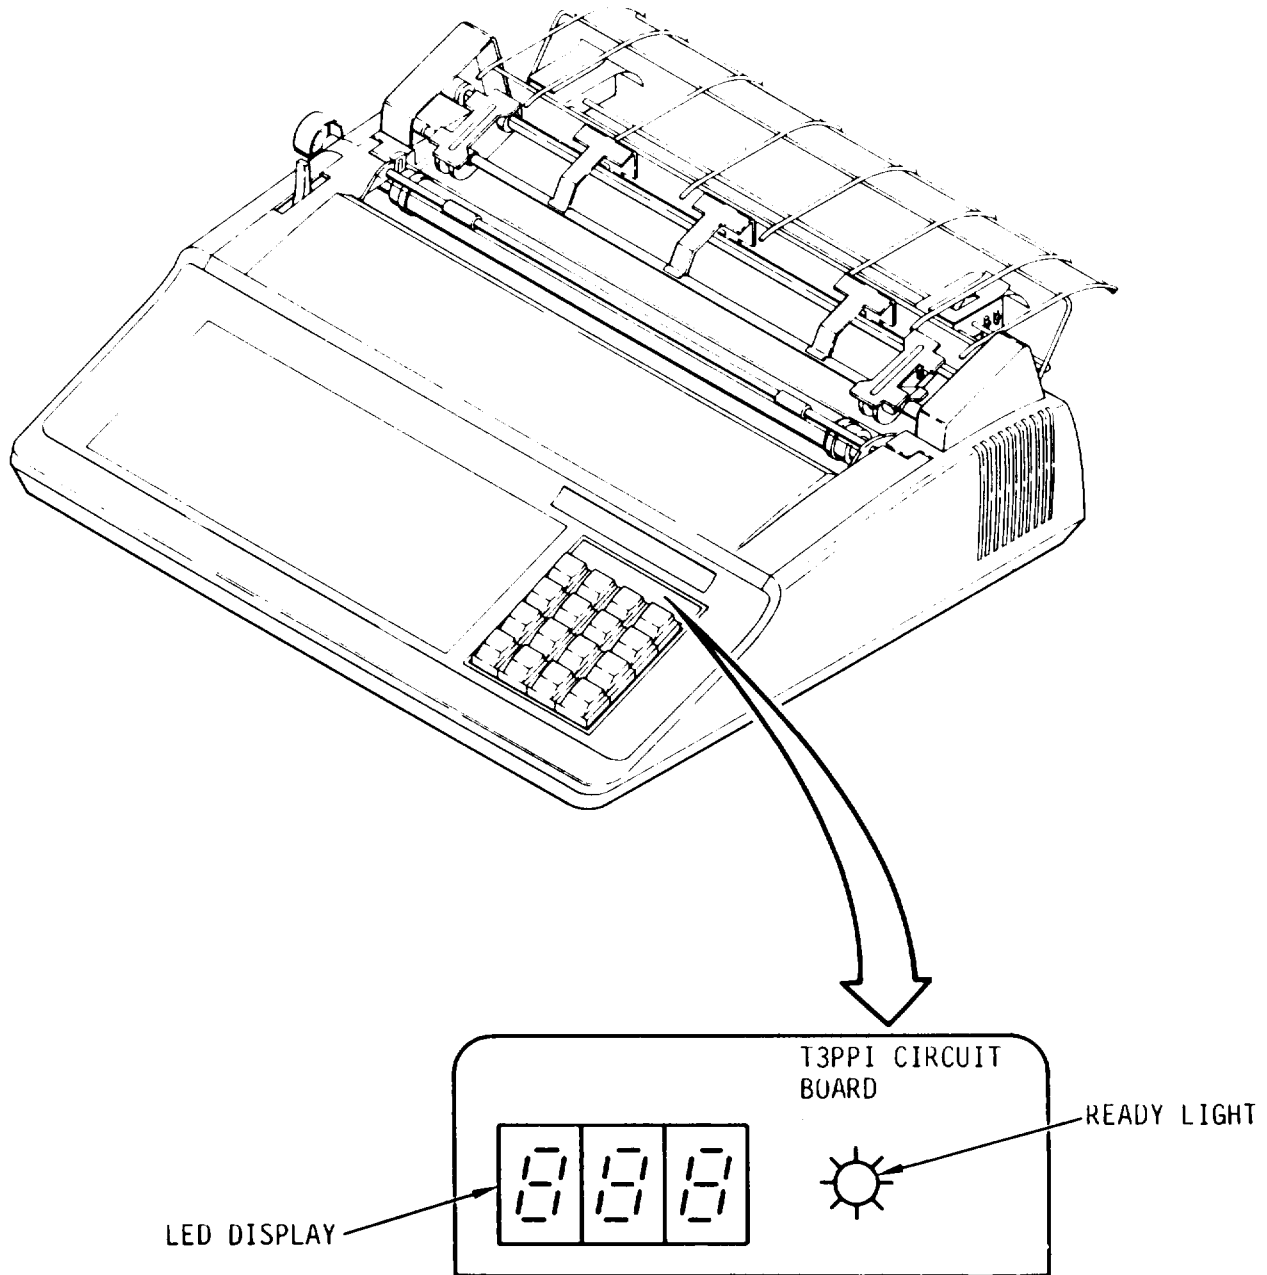

Figure 1-6. Print Position Indicator
f. Print Position Indicator. The print position indicator (fig. 1-6) is a circuit board (T3PPI/1) which includes three segmented LEDs that provide flashing coded alphanumeric diagnostic information during operational malfunction. During normal operation these LEDs display the number of the print column to be printed next.